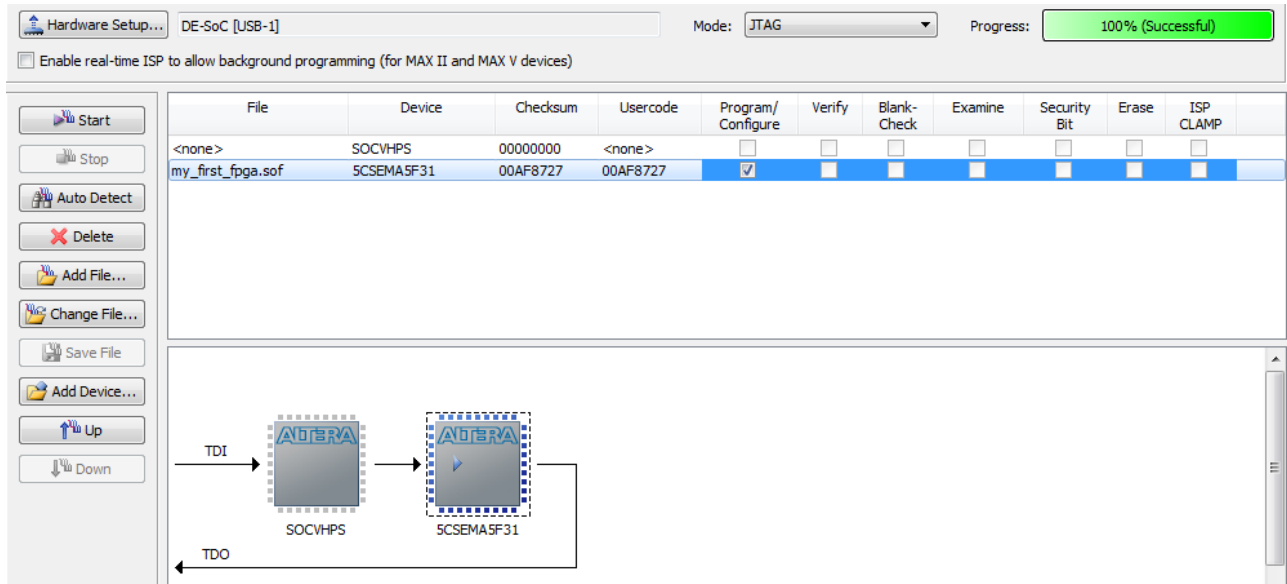

Figure 4-8 Downloading Complete
9. Select the my_first_fpga.sof file from the project directory (see Figure 4-8), select to Program/Configure and click Start to program .sof file into FPGA.